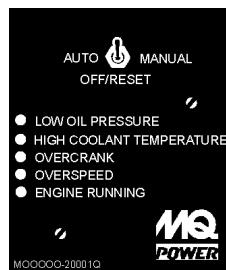

Figure 10. MPEC Module
11. **MPEC** – **Microprocessor Engine Control Module** – (MPEC) has a vertical row of status LED's (Figure 10), that when lit, indicate that an engine malfunction (fault), has been detected. When a